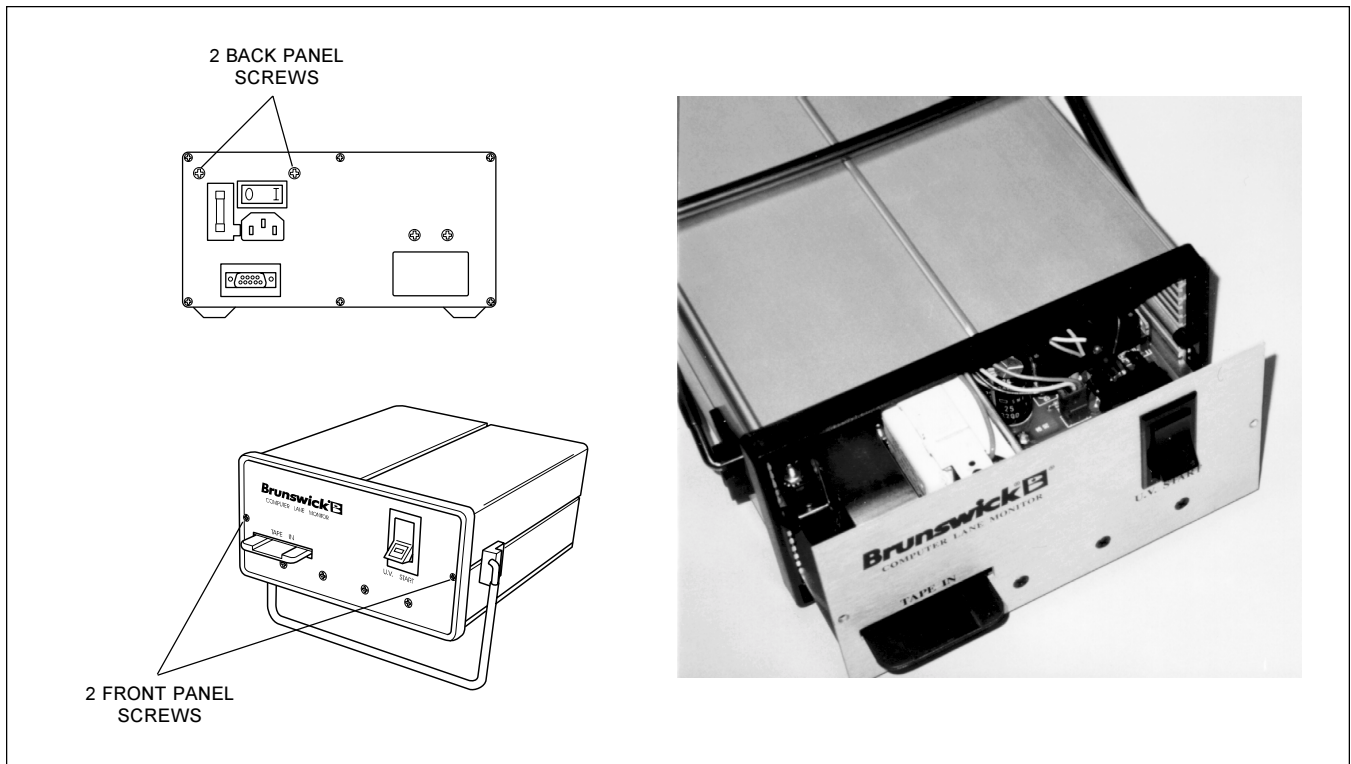

Figure 29 - Chassis Removal
2. Remove the two back panel screws on the top corners of the power inlet module. See Figure 29.
3. Remove the two front panel screws. See Figure 29. The chassis assembly and front panel will now slide freely from the case.
3. Re-install the two front panel screws and tighten. See Figure 29.
4. Re-install the two back panel screws and tighten only until snug. DO NOT OVER TIGHTEN as the screws will strip out. See Figure 29.